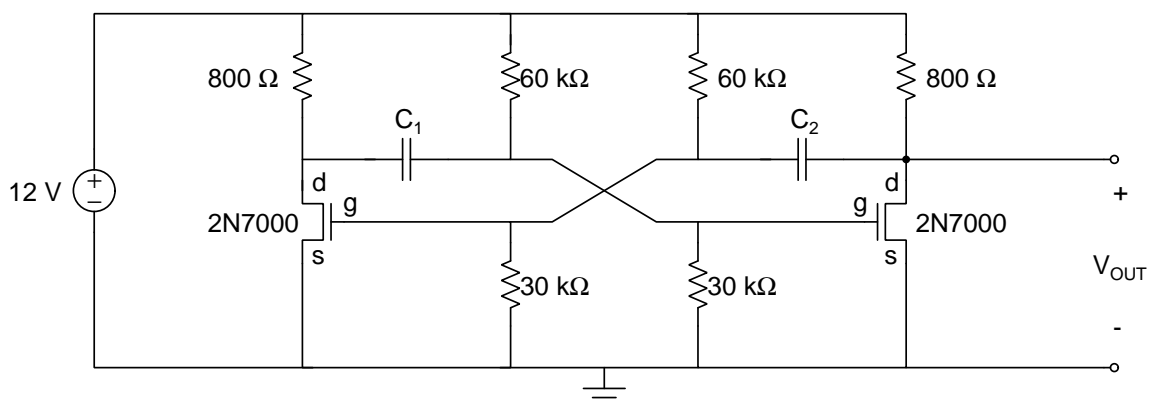

Figure 2: Astable multivibrator circuit of Figure 1 with 2N7000 transistors used as voltage-controlled switches.
2. The NMOS transistor can function as a voltage-controlled switch. In an NMOS transistor, current flows from the drain (D) terminal to the source (S) terminal when the gate (G) to source (S) voltage ( $V_{GS}$ ) is greater than the threshold voltage ( $V_t$ ) of the transistor. No current flows from the D terminal to the S terminal when  $V_{GS}$  is less than  $V_t$ .
- Simulate the operation of the astable multivibrator circuit using the 2N7000 NMOS transistors to implement the voltage-controlled switches, as shown in **Figure 2**. In NGSpice, use the **2N7000\_mod** symbol for the transistor model. This transistor has a nominal  $V_t=1.5 \text{ V}$ .
3. Build the full astable multivibrator circuit shown in Figure 2. This circuit should oscillate when power is supplied.